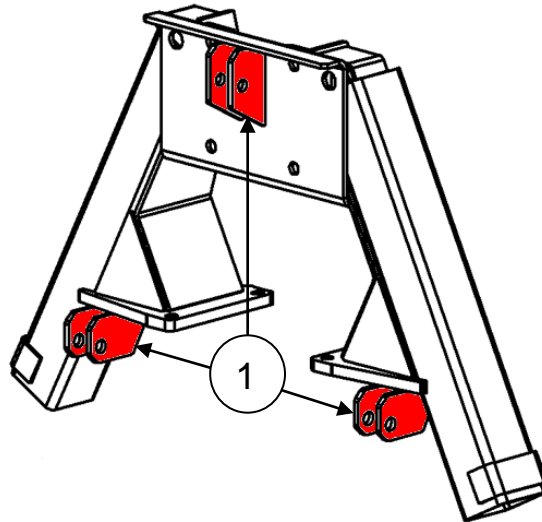

Figure 6.1 Junctions for 3-point linkage on Palms 500 support legs (B2)
Before mounting crane to the 3-point linkage (pos.1, fig. 6.1) make sure that: